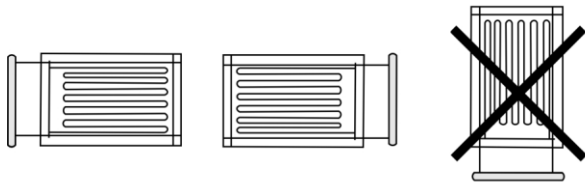

figure 1a/рисунок 1а
1. Heaters/preheaters can be installed in any position (look at figure 1a) except electrical connection box downward. It is not recommend to install the heater, when electrical connection box upward (look at figure 1b).